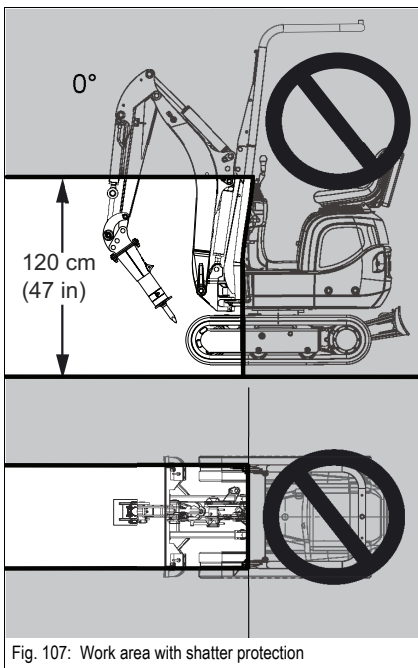

Fig. 107: Work area with shatter protection
- Note restricted work area (see Fig. 107).